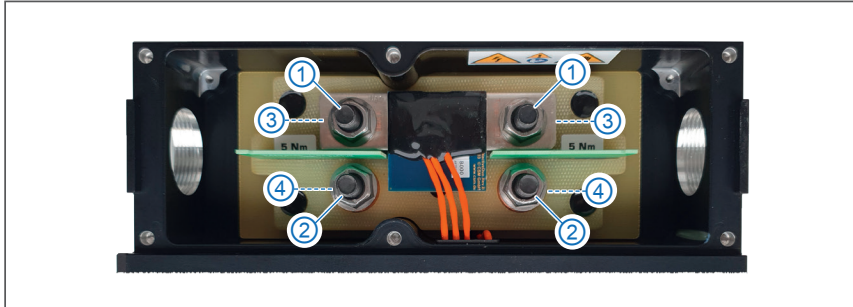
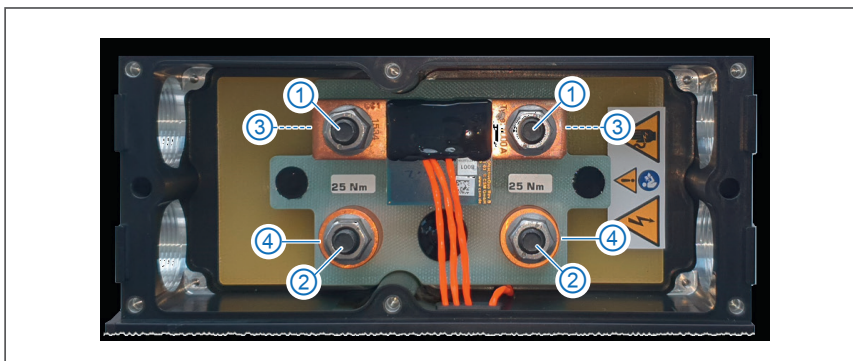

Fig. 5-4: HV BM 1.1 (as of HW rev. D), connections for HV power cables
Fig. 5-5: HV BM 1.2 (as of HW rev. E), connections for HV power cables
The tightening torque for mounting the ring terminals of the HV+ power cables on the threaded bolts of the copper domes (Fig. 5-4, ②/ Fig. 5-5, ②) is always 25 Nm.
- ▶ two for connecting the HV- power cables to the shunt module (Fig. 5-4 / Fig. 5-5 ①)
- ▶ two for connecting the HV+ power cables to the busbar (Fig. 5-4 / Fig. 5-5 ②).
The ring terminals of the HV- power cables rest on the shunt module, which has been placed on the threaded bolts (Fig. 5-4 / Fig. 5-5, ①) using spacer sleeves (Fig. 5-4 / Fig. 5-5, ③).
The ring terminals of the HV+ power cables are placed on the threaded bolts (Fig. 5-4 / Fig. 5-5, ②) and rest on the copper domes (Fig. 5-4 / Fig. 5-5, ④) of the cable feedthrough.